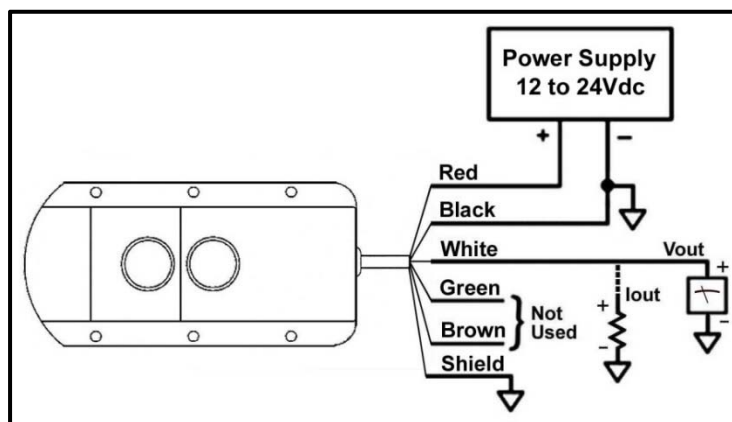
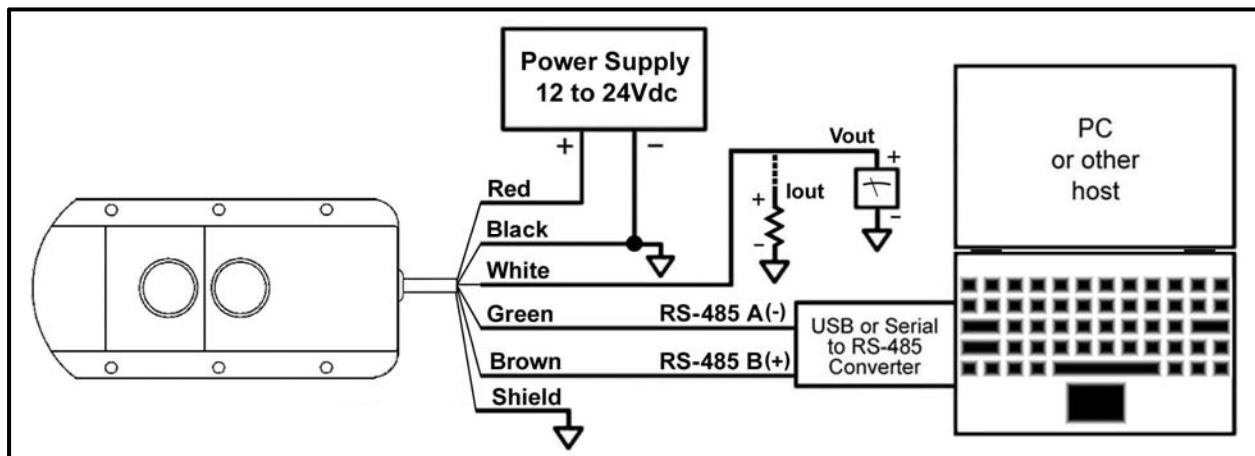

Figure 2
Figure 3
- Connect the sensor's leads as shown in Figure 2. Sensors are programmed for factory default setting. Applications may need setting adjustments which will require connection to the RS-485 port (green and brown wires) and the MassaSonic Software (see Figure 3). Once configured, the RS-485 wires can be removed.
- Connect the sensor’s power leads as shown in Figure 3. If wiring the sensor’s Vout or Iout lead, connect it as well.
- Wire the sensor’s RS-485 green and brown wires as shown in Figure 3.
FlatPack Sensors are powered from 12 to 24 V DC sources, either batteries or power supplies, that are capable of supplying currents of approximately 30 mA (Vout models) and up to 50 mA (Iout models). The red and black wires of a sensor must be connected to the DC power, as shown above in Figures 2, 3, and 6.
Communicating with FlatPack Ultrasonic Sensors is done through the RS-485 serial communications port. The advantages of an RS-485 based system include the ability to have long cable lengths and up to 32 sensors on one pair of wires (multi-drop). This method allows for access to all sensors from any convenient location. When communicating with a PC, a communications converter will be required to convert the signals from the PC’s USB or RS-232 port to the sensor’s RS-485 port. Wire the FlatPack Sensor to the RS-485 Communication Converter as shown in Figure 3.